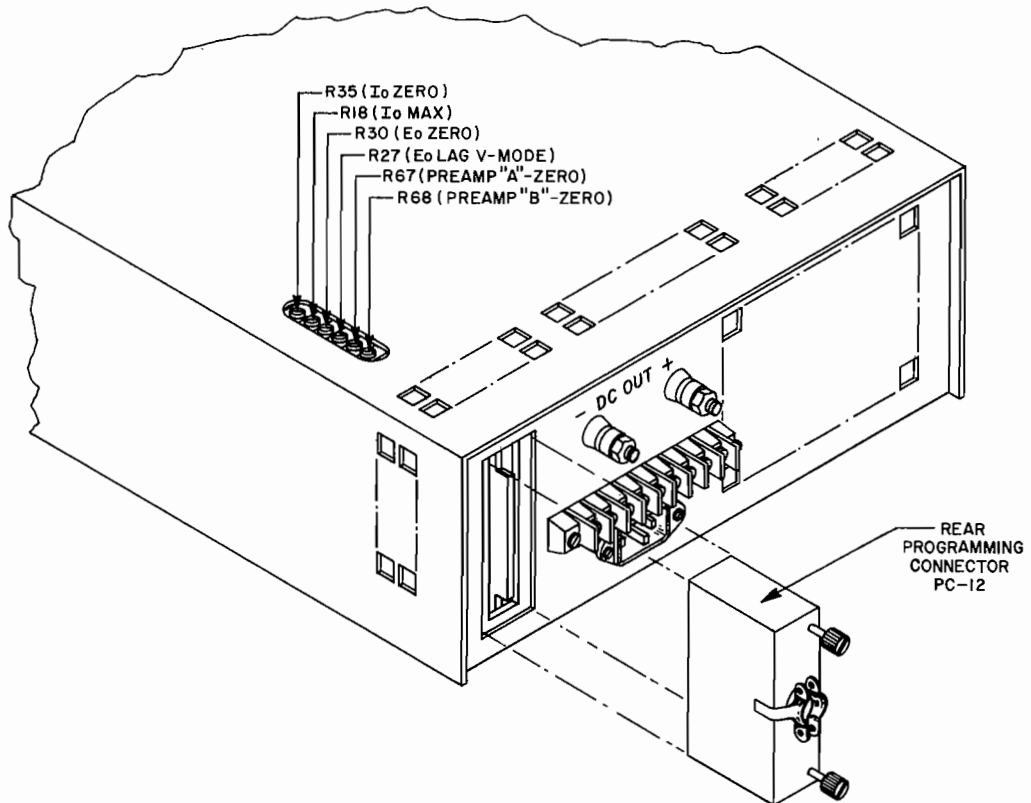

FIG. 2-1 LOCATION OF INTERNAL CONTROLS, ATE 3/4 RACK GROUP.
- c) INTERNAL CONTROLS: Refer to FIG. 2-1 and Table 2-1.
- 2-19 LAG NETWORK ADJUSTMENT. The ATE power supply operating in the "fast" mode, is dynamically stabilized by means of an internal lag network (E_o LAG, R27, see FIG. 2-1 for location). This control should be adjusted, for each application, by monitoring the load with an oscilloscope and turning the LAG control for best output response and maximum dynamic stability under all operating conditions.